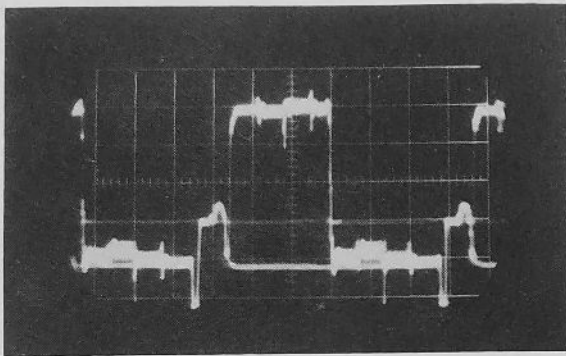

Figure 33. Input, Video Input 2J13. Output, Green Output. Set Brightness Control at 1/3 Rotation.
41. Connect the scope probe to the green output. This pattern should be the same as shown in Figure 33.